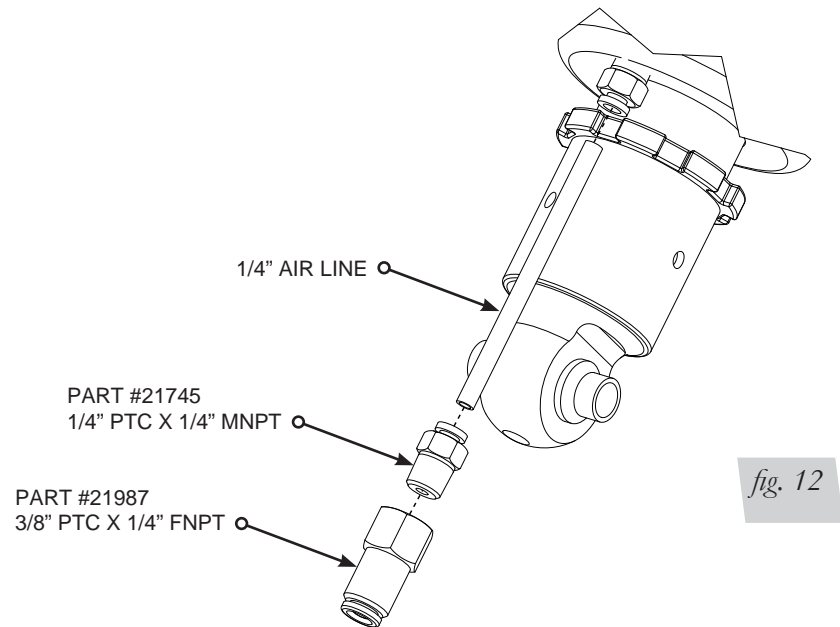

fig. 12
- This kit comes with the lower mount threaded down for maximum drop height. Due to this, 3/8" fittings will not thread into the air spring lower end cap and 1/4" fittings have been installed by Air Lift Company. If you choose to operate your system with 3/8" air line, assemble fittings 21987 and 21745 together with thread sealant and torque to 1-3/4 turns beyond hand tight. 1/4" air line is supplied to reduce the 3/8" line to 1/4" into the air spring. The length of 1/4" air line can be trimmed to your desired length (fig. 12).